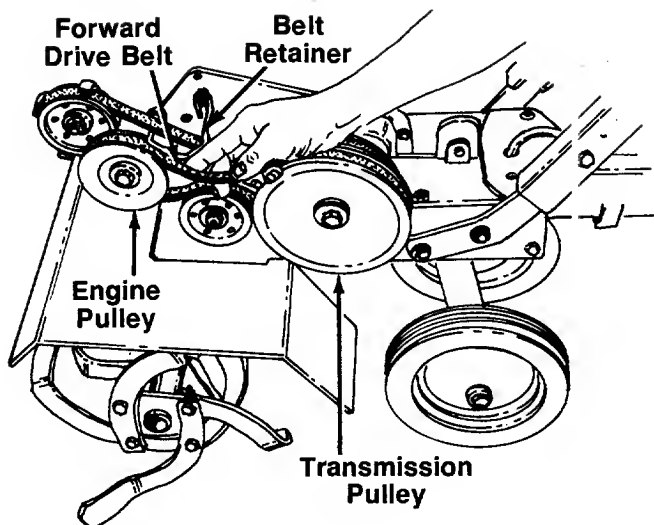

FIGURE 28.
3. Remove the forward drive belt from beneath the belt retainer. See figure 28.